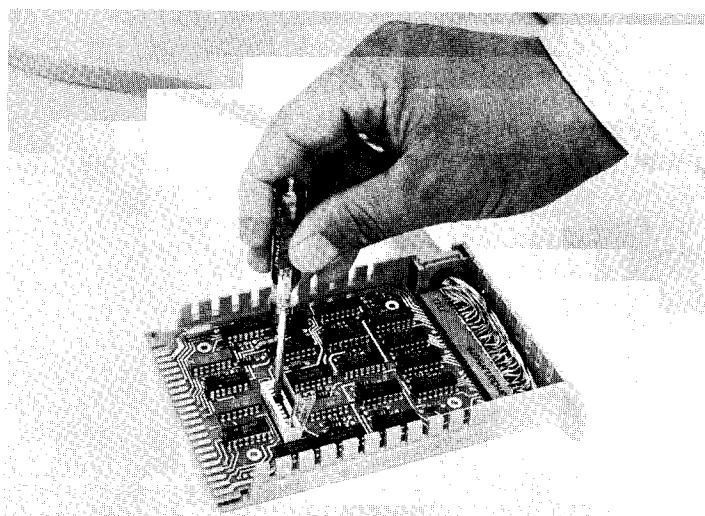

Figure 1-1. Setting the Select Code
3. Locate the Select Code Switch (see Figure 1-1). Raise the hinged cover on the switch. Using a small, flat-blade screwdriver, *carefully rotate* the selector-tab until it is positioned at the desired select code number. Numbers are printed on the side and on the top cover of the switch ('0' is unusable). Before closing the cover, be sure the slot in the selector-tab is at a right angle to the length of the switch.